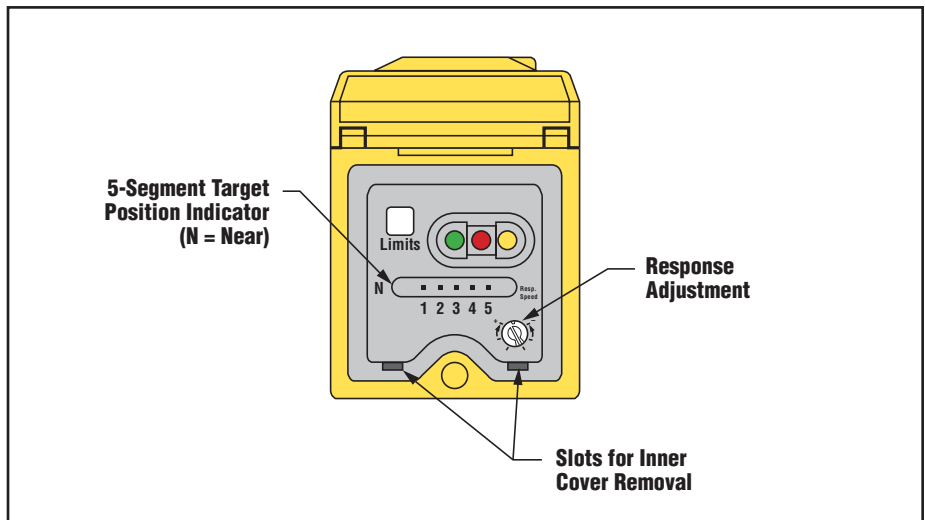

Figure 1. Analog Q45U (45LMA card) features
- 2) Remove the output card from the Q45U sensor (Figure 1). Use a small screwdriver, or similar tool, to dislodge the output card from its connector. Then, slide the card out of the sensor.
Using the two slots shown in Figure 1, a small flat-blade screwdriver may be used to lift up and remove the black inner cover to expose the 4-position DIP switch (Figure 2).
The speed of the output response is set using the single-turn potentiometer (see Figures 1 and 6). There are six values for response speed, which relate directly to the number of sensing cycles over which the output value is averaged. The response value is set by aligning the slot of the potentiometer with one of the marked positions. The positions and their corresponding settings are identified in Figure 6.